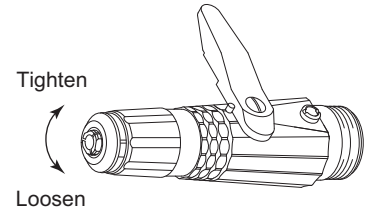

Fig. 7
- ③ Attachment and Adjustment of the collet.
(1) Turning the lever vertically. And turning the collet clockwise by finger to the end to attach, while clutching the test bur or the using cutting tools into the collet.
(2) And turn the collet about 1 / 5 counterclockwise to adjust the cutting tool to pull out easily. In this case, about 0.1mm thinner of cutting tool can be used (Fig. 7).